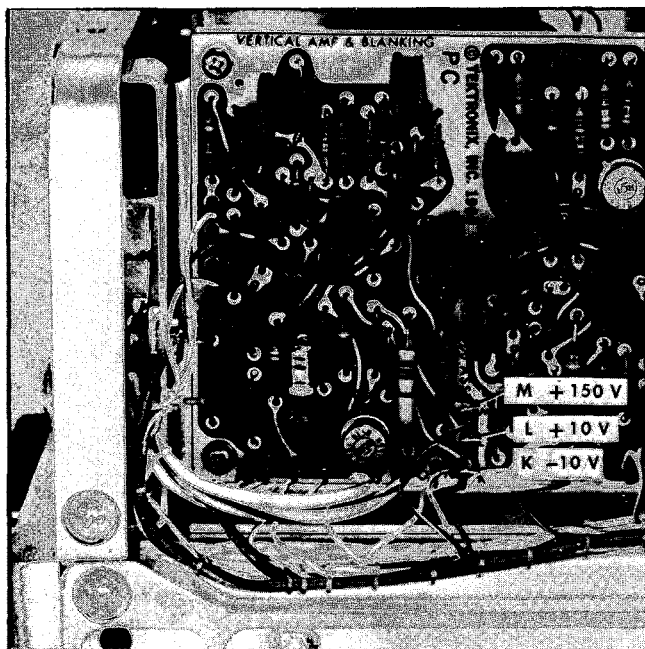

Fig. 6-5. Location of the low voltage check points.
b. Turn the POWER switch to ON position, then connect a calibrated voltmeter between pin K on the Vertical Amplifier and Blanking circuit board, and chassis ground (see Fig. 6-5).
b. Connect the voltmeter between pin L of the Vertical Amplifier and Blanking circuit board and chassis ground [see Fig. 6-5). Check the +10 volt supply. Must read between +9.7 and +10.3 volts (10 V $\pm 3\%$).
b. Connect the VOM to the voltage check points (Fig. 6-5), and check the voltage regulation of each regulated supply as the input line voltage is varied through the input line voltage range as shown in Table 6-1.